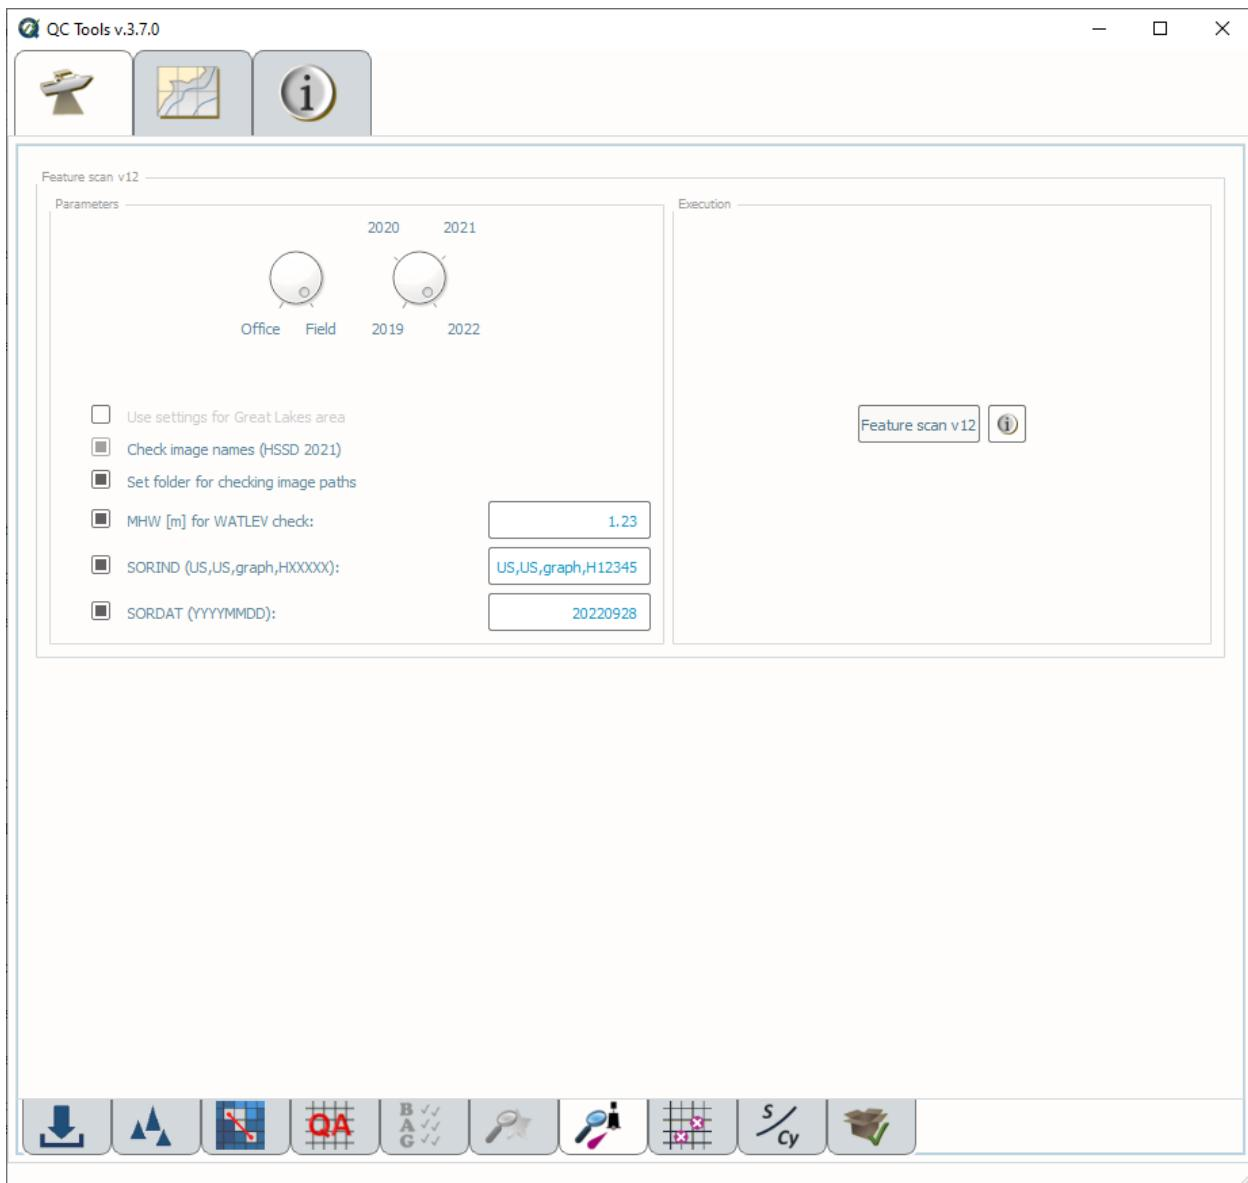

Fig. 2.44: The Scan features tab.
- Select the **Feature Scan** tab (Fig. 2.44) on the bottom of the QC Tools interface.